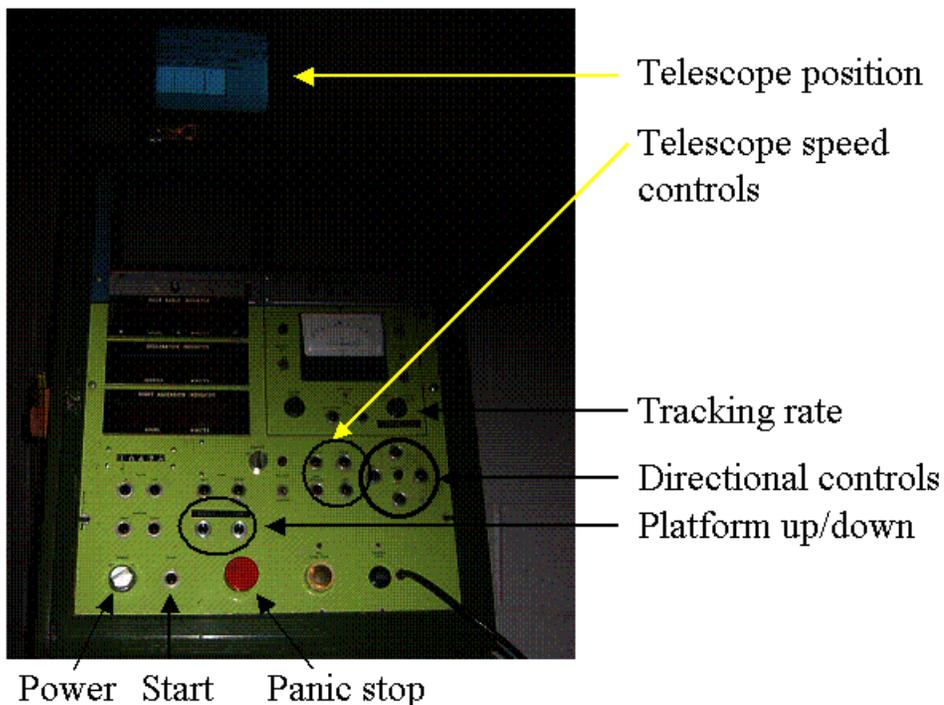

Figure 4: The Telescope Control System on the observing floor of the 1.3-m telescope.
1. Before doing anything, make sure that there is nothing on the floor that can interfere with the motion of the telescope. In particular, make sure that the liquid nitrogen tank and the ladder have been moved to the northeast corner of the platform by the TCS, and make sure that the platform is down (see Figure 4 below).
2. Refer to Figure 4 (below), Telescope Control System. Turn on power.